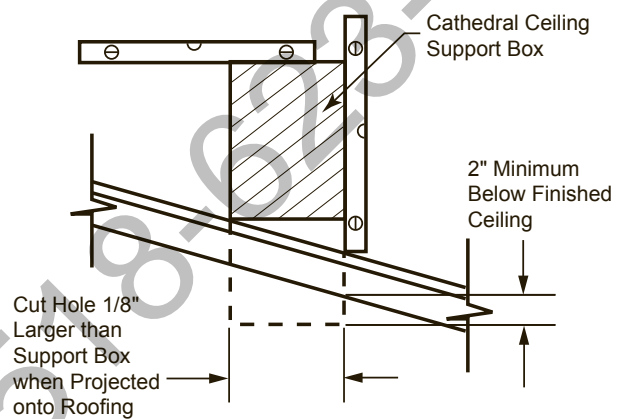

Figure 25 -
2. Cut the hole 1/8" larger than the support box outline. *Figure 25.*
3. Lower the support box through the hole in the roof until the bottom of the box extends at least 2" (50 mm) below the ceiling. *Figure 25.* Align the support box vertically and horizontally using a level. Temporarily tack the support box in place through the inside walls and into the roof sheathing.